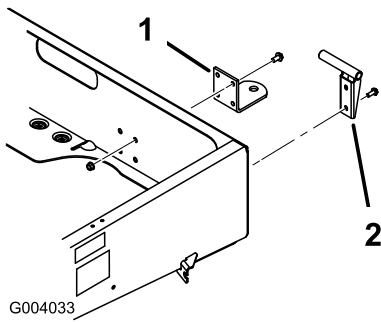

Figure 8
2. Align the hitch with the mounting holes on the frame. Secure the hitch with the screws and nuts (Figure 8).
2. Mount the left hand pivot bracket to the left rear corner of the frame with 2 flange head screws (3/8 x 1 inch). Torque the screws to 16 ft-lb (22 N-m). Position the bracket as shown in Figure 8.